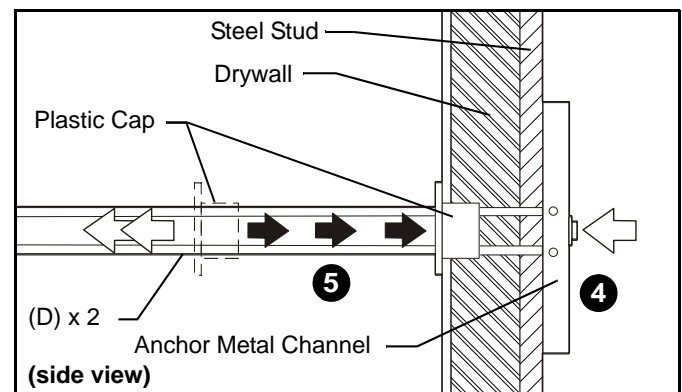

Figure 15
4. Holding plastic straps on anchor (D), pull anchor away from wall until channel rests flush behind wall making sure anchor channel is positioned vertically
5. Slide plastic cap on anchor (D) towards wall until flange of cap is flush with wall. (See Figure 15)